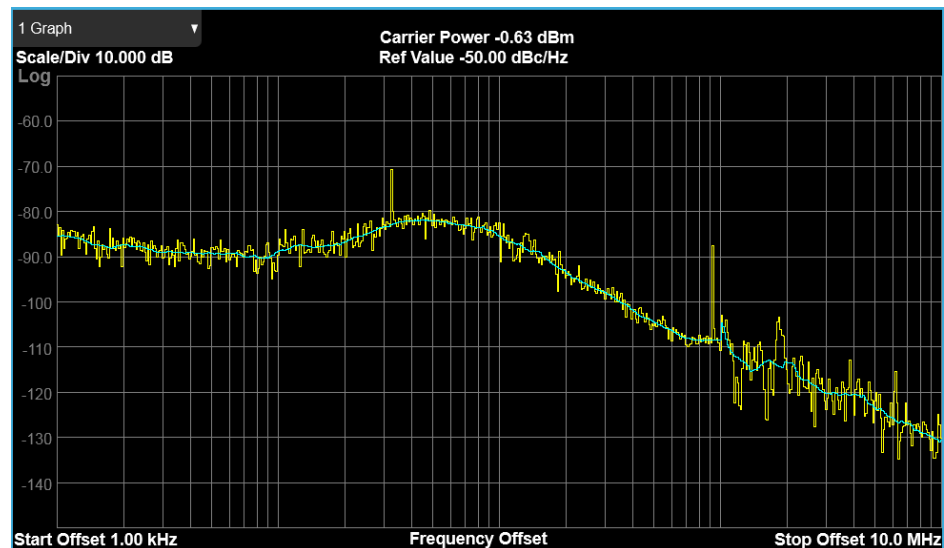

Fig 19. Phase noise @ 250 kbit/s
- The Tx phase noise with the GFSK data rate of 250 kbit/s is shown in Fig 19.